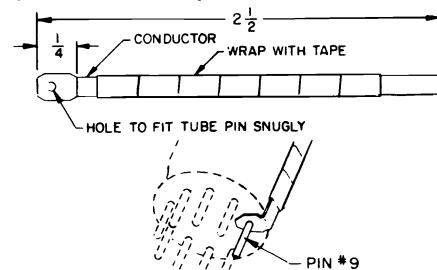

Figure 12 - Mixer coupling gimmick.
| 4. | VTVM to T.P. (B) and CW generator to T.P. (M) See Figures 18, 19 (on 470V064H01 tuner use gimmick, see Figure 12). Set CW generator to: a. 44.25 MC b. 44.25 MC c. 41.25 MC d. 47.25 MC e. 47.25 MC It may be necessary to increase signal level and remove IF bias during this step in order to obtain dip on VTVM | Mixer output coil: Maximum on VTVM - See Figures 18,19 T200: Maximum on VTVM L200: Minimum on VTVM L201: Minimum on VTVM L202: Minimum on VTVM |